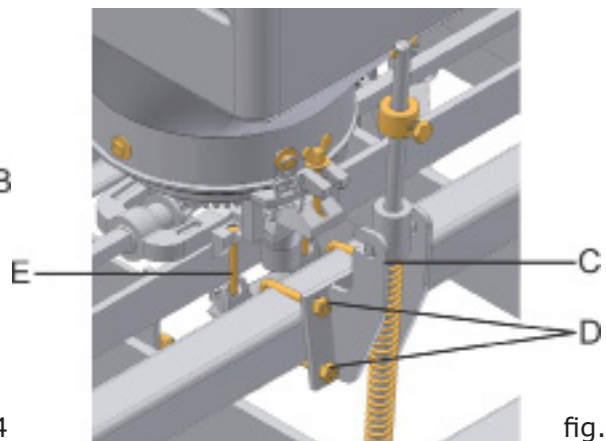

fig.05
- 5 - Loose the rod jointer (C) (fig. 05) through the attaching nuts of the clamps (D). Align the rods with the furrower line. Attach the rods jointer and the furrower line kit.
- 6 - Assemble the spacer bars (A) according to the desired option.
- 7 - Loose the nut from fixers of the seed reservoirs (E) (fig. 05) and do the alignment of them in relation to the furrower lines.